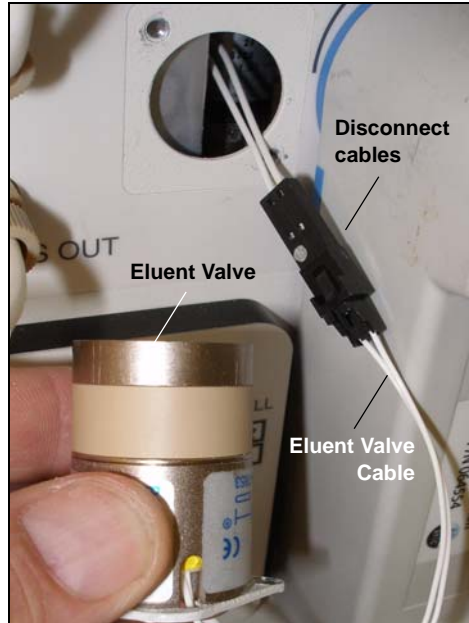

Figure 5-27. Eluent Valve Cable
- The cable is connected to a matching cable inside the ICS-2100. Continue pulling until the connectors for the two cables are outside the panel (see Figure 5-27). Disconnect the cables.